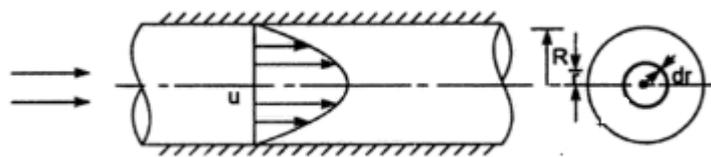

Figure Q1a. Circular pipe
- Q1.** a) For the laminar flow through a circular pipe of radius R as shown in Figure Q1a., prove the following: